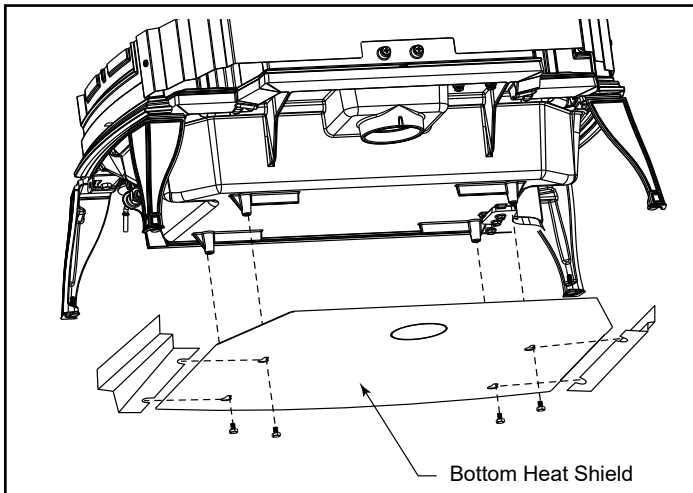

Figure 5.5 - Attach the bottom heat shield.
1. Install (4) 1/4-20 x 3/8" hex bolts that were previously removed from the shipping brackets and install into the four holes located under the stove, Figure 5.5.
2. Align the bottom heat shield key holes to the four hex bolts previously installed into base, Figure 5.5. The outside air cutout hole should be toward the rear of the stove.
3. Attach the heat shield sides by passing the slots over the bolt heads. Tighten the hex head bolts, Figure 5.5.